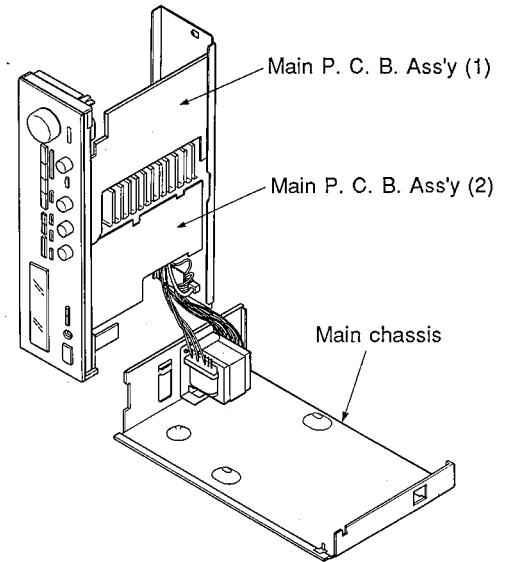

Fig. 2
- b. Remove the Main Chassis as shown in Fig. 2. In this condition it is possible for you check the Main P. C. B. Ass'y, and replace the parts.